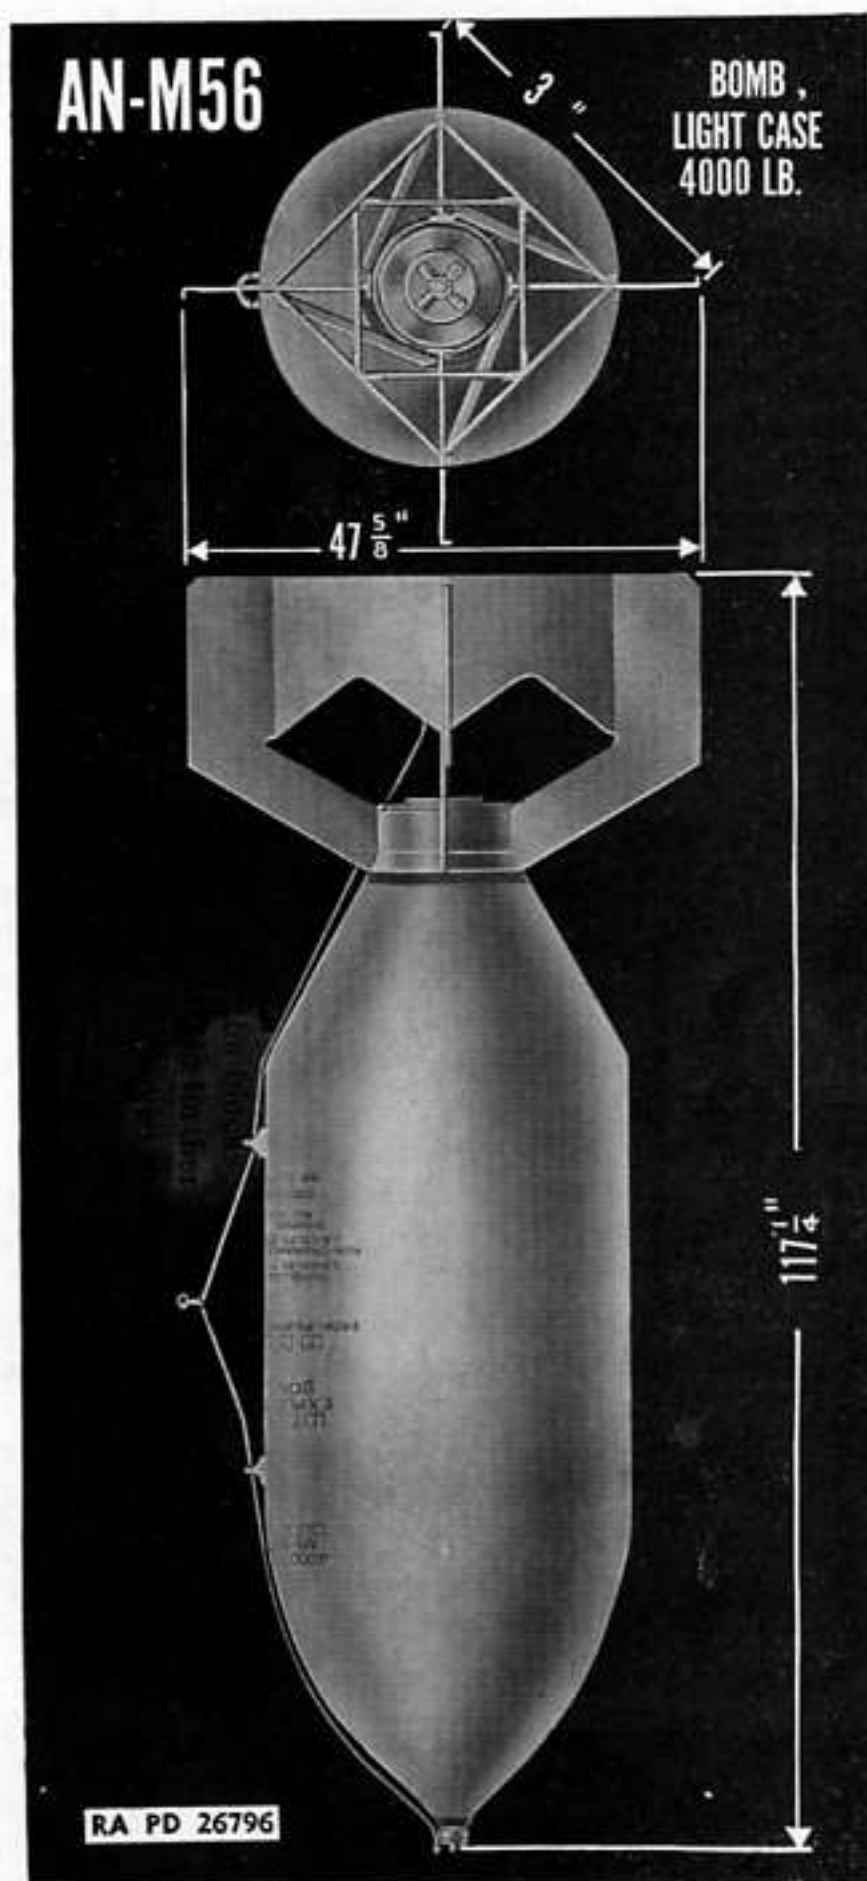

Figure 93. BOMB, light case, 4,000-lb., AN-M56.
79. **BOMB, LIGHT CASE, 4,000-LB., AN-M56.** a. Data. BOMB, light case, 4,000-lb., AN-M56 is a cylindrical bomb which is 117.25 inches long and weighs 4,201 pounds, as released. (See fig. 93.) The bomb body is 94.9 inches in length and 34.25 inches in diameter. It weighs 4,087 pounds of which 3,245 pounds, 77.3 percent of the complete round, is explosive charge.